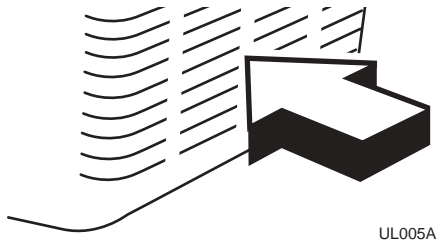

Figure 2
4. Position the unit to allow free air flow through the front grille (see Figure 2).